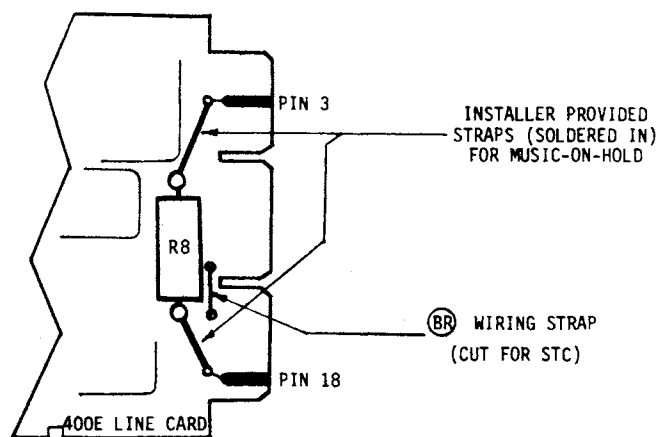

Figure 4
4.23 When an STC interconnect device is used with the system, ensure the BR wiring strap on each line card is cut. Cutting the BR strap provides an operate path for the RU lead to the interconnect device. Location of the BR strap is shown in Figure 4. This strap should not be cut on cards connected to STP interface devices or connected directly to the CO/PBX line.
4.24 Music-on-hold can be used with lines served by connector positions J1 through J6. Factory wiring provides for a MOH buffer card (403) in connector position J12 (refer to paragraph 4.33). When supplying music-on-hold, ensure pins 3 and 18 of each card are strapped for this feature as shown in Figure 4.